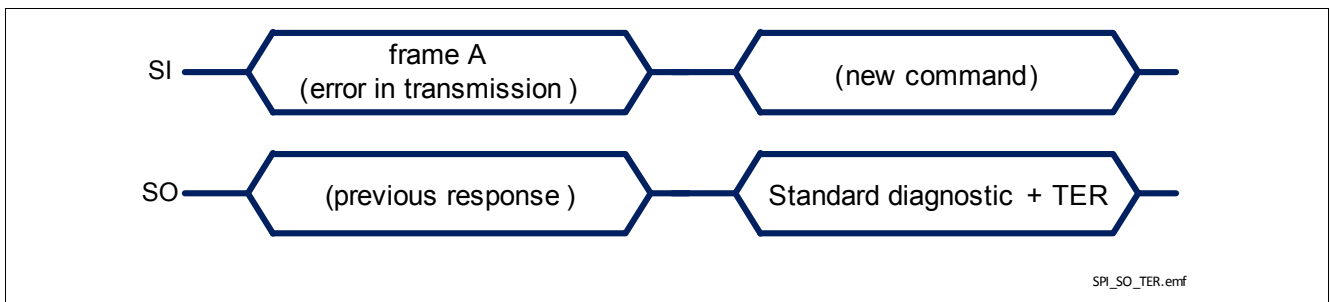

Figure 32 BTS54040-LBA response after an error in transmission
- in case an error in transmission happened during the previous frame (for instance, the clock pulses were not multiple of 8), shown in Figure 32